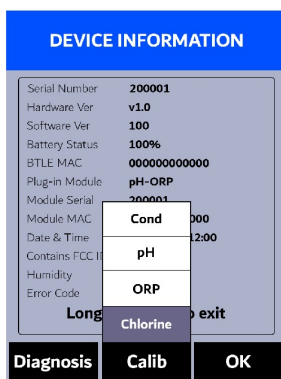

Figure 39.
3. Press **Calib** (**>**) as needed to highlight **Chlorine** calibration in the selection menu (Figure 39).